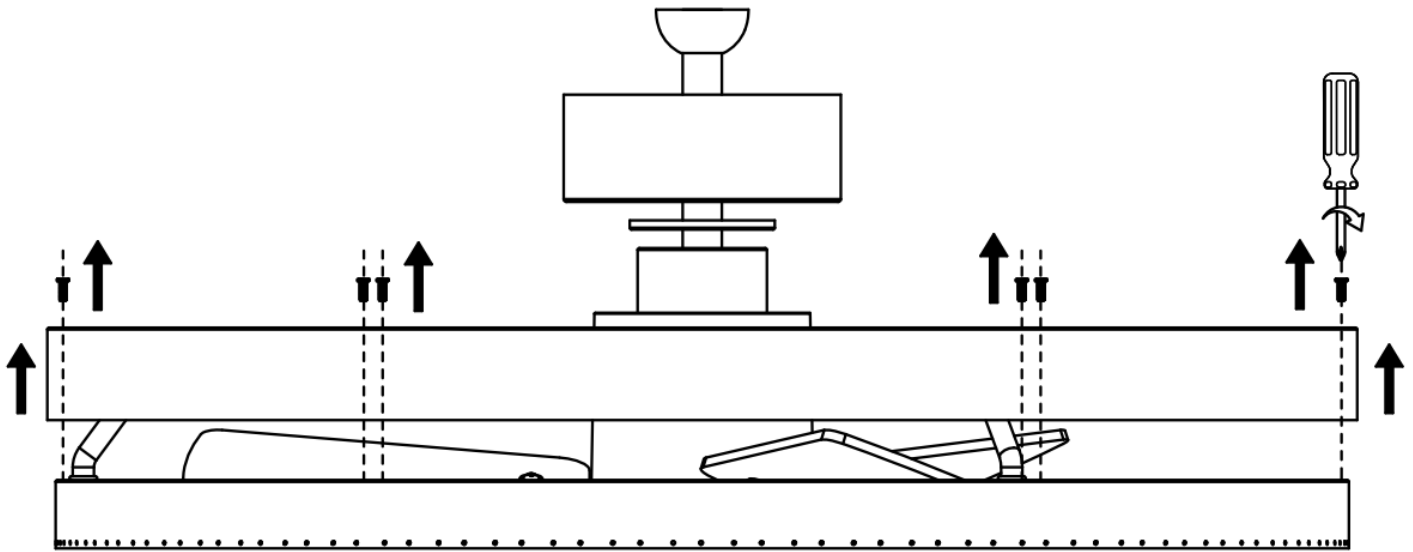

Fig. 5
1. Remove the lamp housing cover from the fan assembly by loosening the screws. (Fig.5)